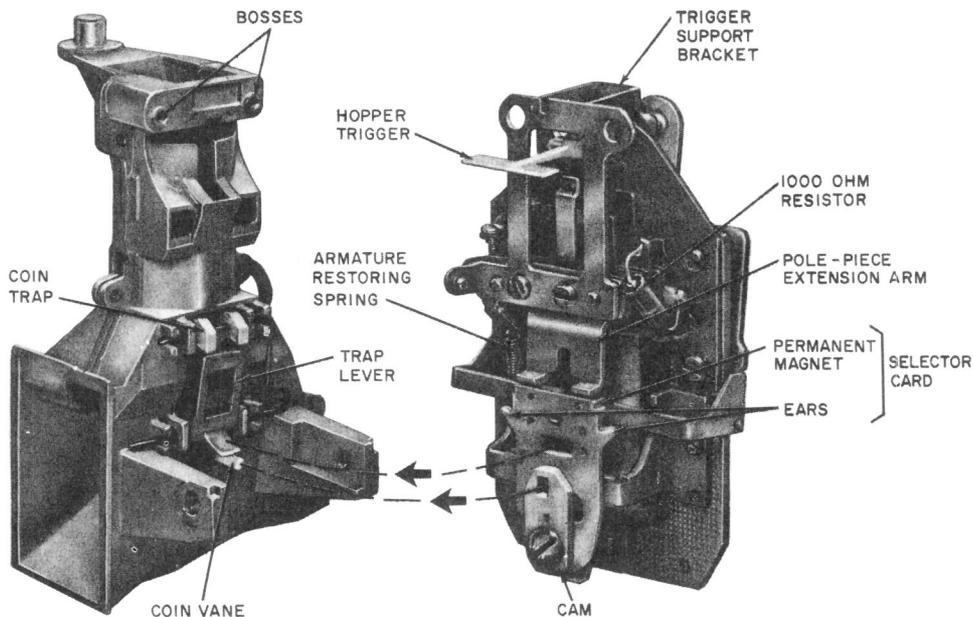

Fig. 37—Coin Hopper and Rear View of Coin Relay
- (3) Remove two slotted hex head screws on sides of coin relay.
- (4) Check that the hopper trigger (Fig. 37) is in horizontal (up) position and pull off coin relay. **Do not damage hopper trigger.**
5.09 To install 1A coin relay (Fig. 37):